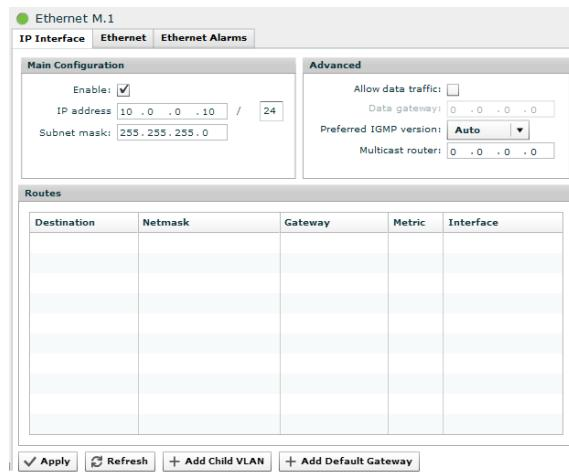

Figure 7.2 Configuring network settings via the Web GUI
3. Browse to Network -> Ethernet M.1 in the GUI navigator, and set the correct IP address settings. Click Apply to activate the new parameters. Figure 7.2 shows this GUI screen.